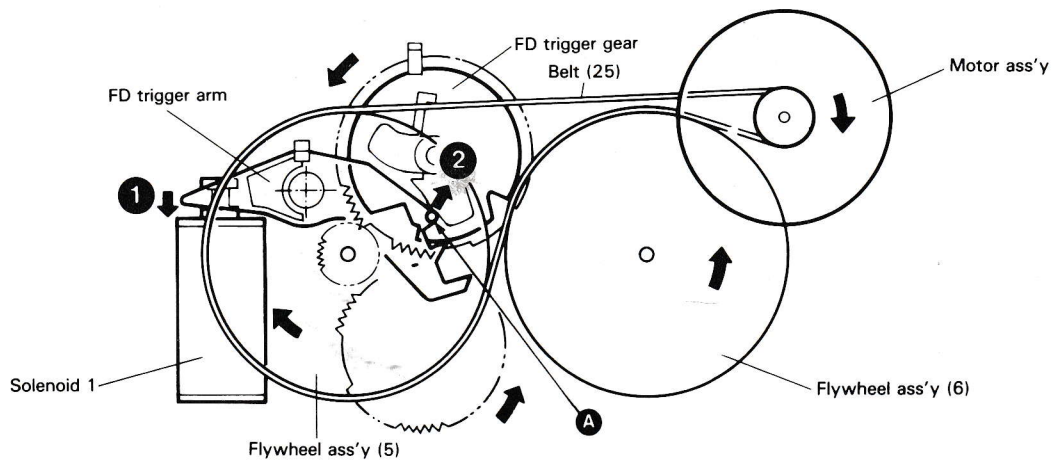
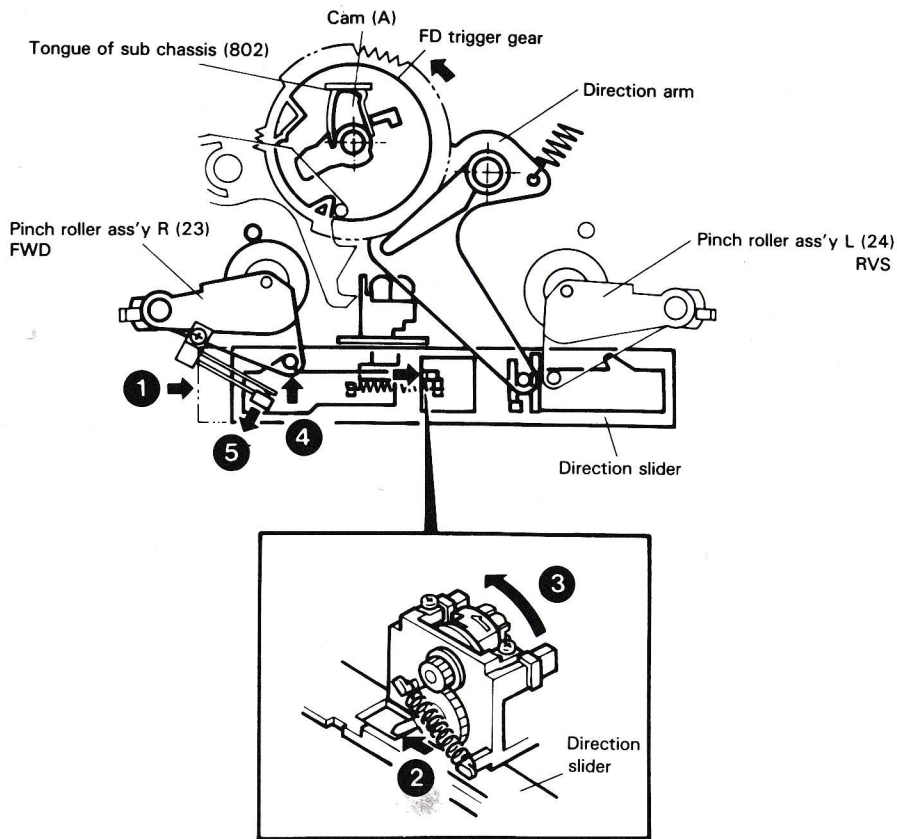

Fig. 1 Transmission of rotation
Fig. 2 Status of forward play
- Rotation transmission** : Rotation is transmitted from the motor as indicated by the arrow (➔) in Fig. 1.
2-1 Forward play (FWD PLAY) operation (Figs. 1 and 2)
The FD trigger arm rotates in the direction of arrow ② (Fig. 1) and the boss ④ is disengaged from the protrusion of the FD trigger gear so that the FD trigger gear is engaged with the flywheel gear and rotated in the direction of the arrow (Fig. 2). Then, the cam (A) located at the rear of the FD trigger gear
pushes upwards the tongue of the sub chassis (802) to lift the head. At the same time, the cams on the rear of the FD trigger gear controls the direction arm to move the direction slider in the FWD direction (arrow ①) to select the FWD side record/erase head and pinch roller (arrows ②, ③, ④ and ⑤) (Fig. 2).